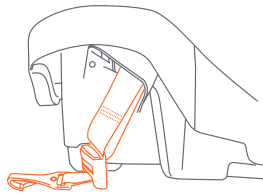
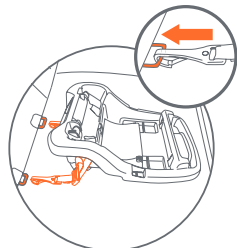

Fig. 54-1
Fig. 55-1
4. Remove the **UAS** connectors from their storage position inside the base (Fig. 54-1). Place the Base in the rear-facing position in a forward facing vehicle seat as shown in (Fig. 55-1). **The Child must face the rear of the vehicle and Safety Seat must be placed in a vehicle seat that faces forward.**